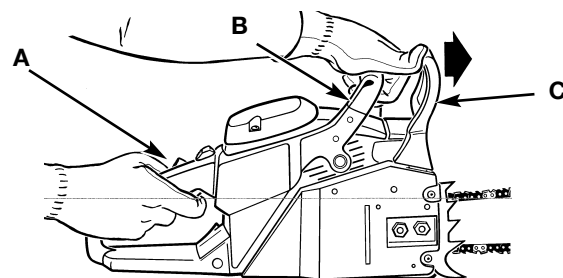

Fig. 10
3. Grasp the rear handle (A) with your right hand (Fig. 10).
4. With your left hand, hold the front handle (B) [not Chain Brake® lever (C)] firmly (Fig. 10).
5. Squeeze the throttle trigger to 1/3 throttle, then immediately engage the Chain Brake® lever by pushing forward (C) (Fig. 10).